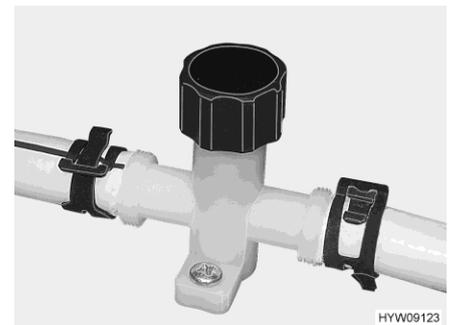
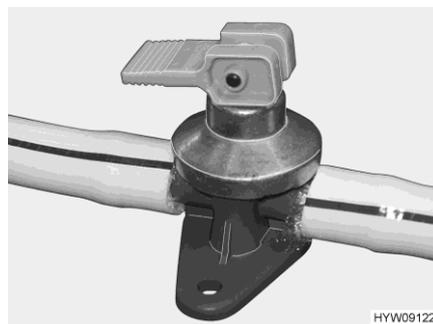

Fig. 191 Drain cock (water pipe)
Fig. 192 Drain cock (Alde boiler)
- Close drain cocks (Fig. 192 and Fig. 191). To do so, close the caps by turning them in a clockwise direction and set the rocking lever in a horizontal position. The position of the safety/drainage valve and the drain cocks is specified in the section 10.7 at the end of this chapter.